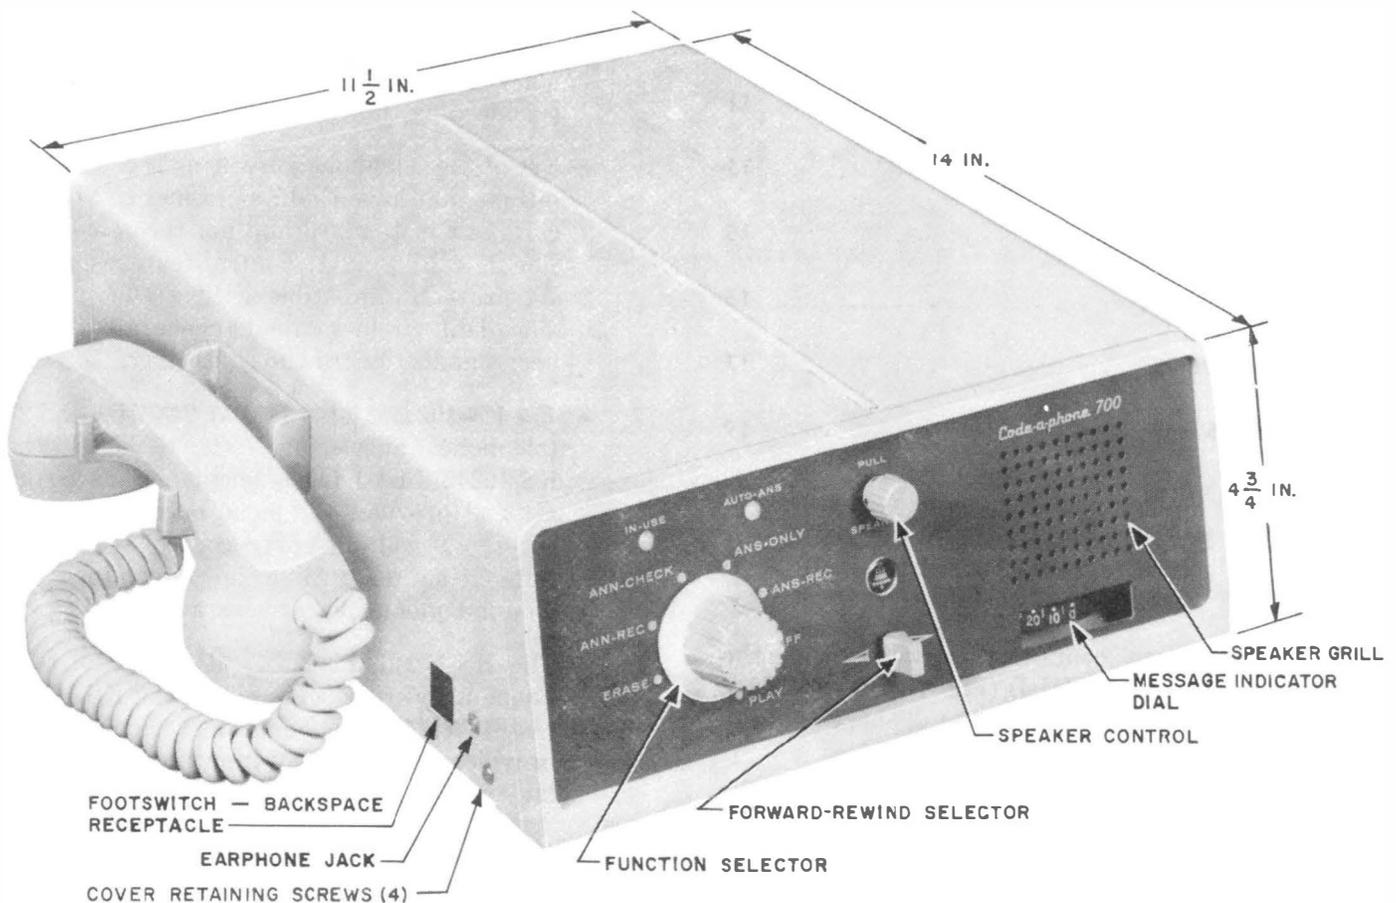
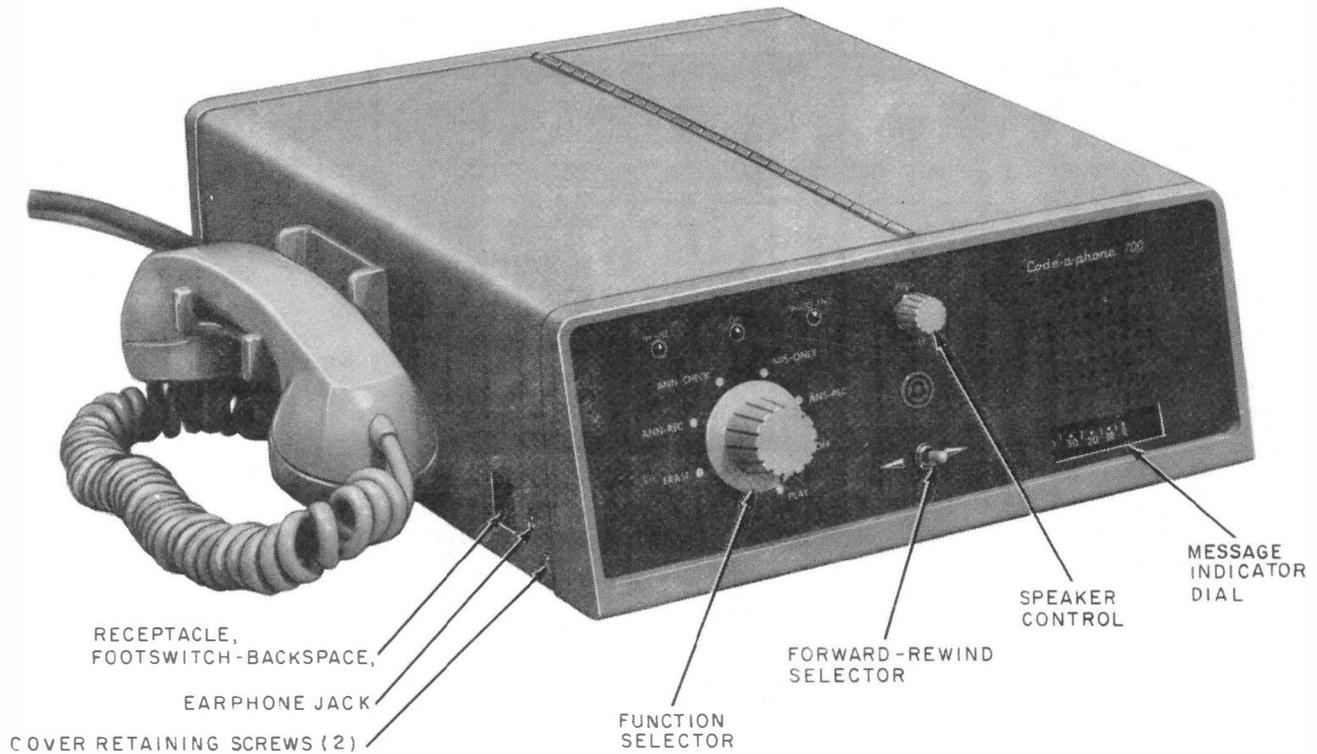
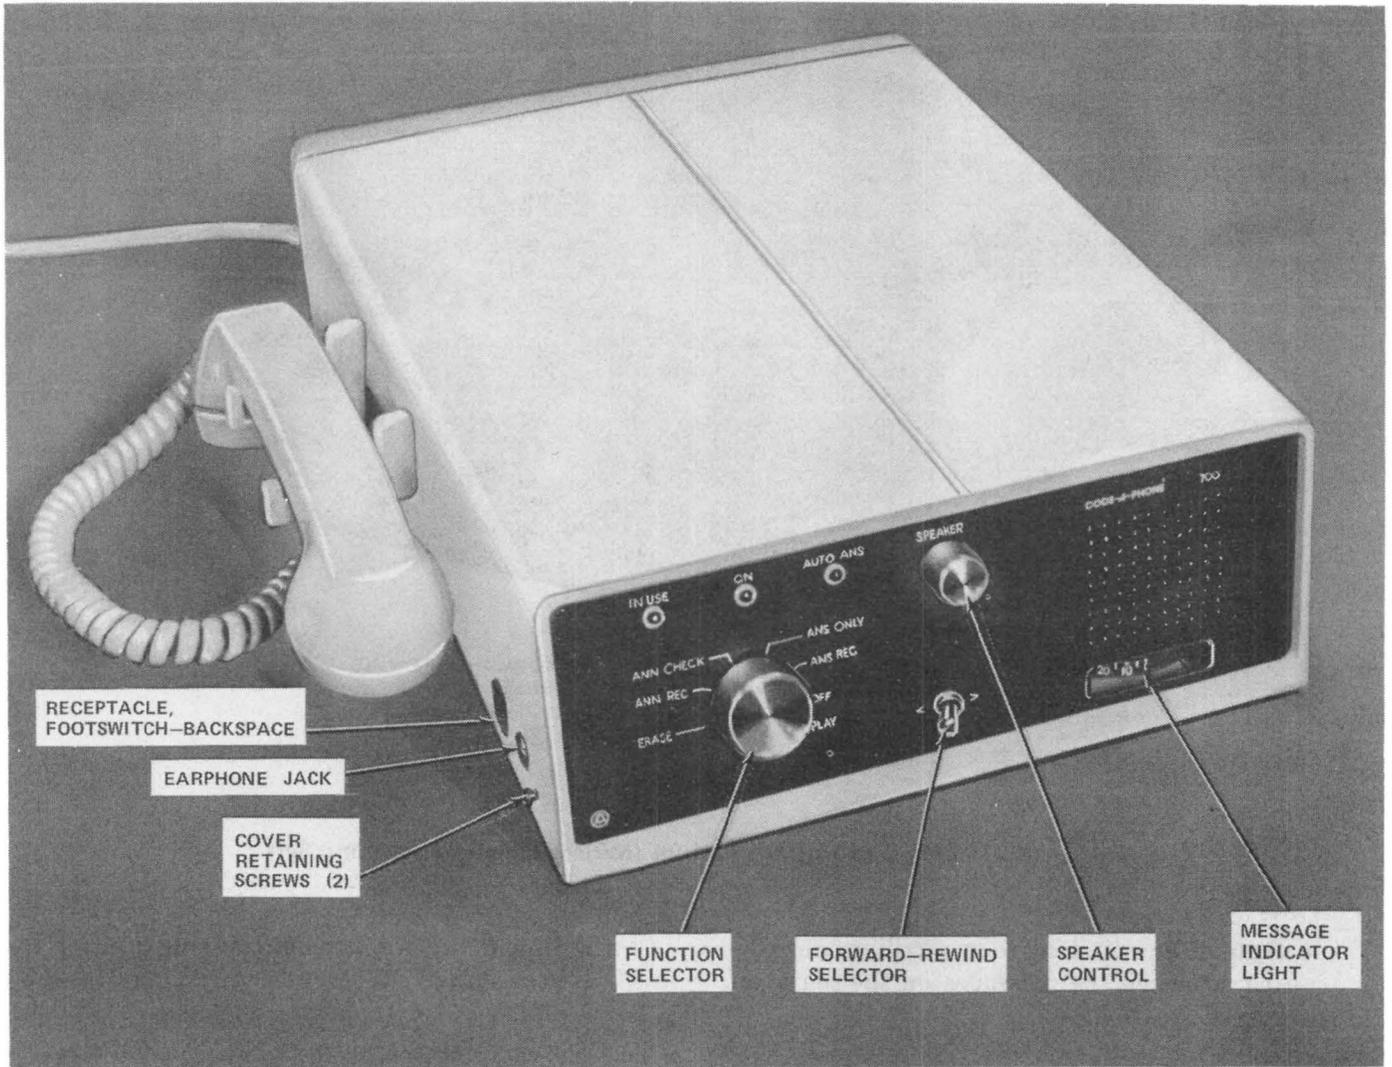

Fig. 1—KS-19245, List 1 (MD) Telephone Answering Set
Fig. 2—KS-19245, Lists 13 (MD) and 24 (MD) Telephone Answering Sets
Fig. 3—KS-19245, List 26 Telephone Answering Set
1.01 This section contains information on the KS-19245, List 1 (MD) (Fig. 1), List 13 (MD), List 24 (Fig. 2), and List 26 (Fig. 3) telephone answering sets.
2.01 The KS-19245, Lists 1 (MD), 13 (MD), and 24 (MD), and 26 telephone answering sets (Fig. 1, 2, and 3) are automatic answering sets for either answer and record, or answer only service.
- The use of the KS-19245, Lists 13 (MD), 24 (MD), and 26 behind a DIMENSION® PRX equipped with a 120B ring generator is not recommended. The ring detector circuitry is not compatible with the level of distortion produced by this generator.
- The KS-19245, Lists 13 (MD), 24 (MD), and 26 telephone answering set replaces the KS-19245, List 1 (MD) telephone answering set and provides the same operational features plus calling party control (CPC) options, ring delay, and an input jack for modular mounting cord installations.
- The KS-19245, Lists 24 (MD) and 26 telephone answering set replaces the KS-19245, List 13 (MD) telephone answering set and provides a six terminal input jack for modular mounting cord installation.
- Calling party control options provide selection of interrupt time from 0.5 to 450 milliseconds [Lists 13 (MD), 24 (MD), and 26 telephone answering sets only].
- Ring delay. Answer on first ring or after approximately 12 seconds of ringing [Lists 13 (MD), 24 (MD), and 26 telephone answering sets only].
- Modular connections [Lists 13 (MD), 24 (MD), and 26 telephone answering sets only].
- Housed in a metal case. The cover has a light olive gray textured finish and the front panel has a blue-gray enamel finish for the Lists 1 (MD), 13 (MD), and 24 (MD). The cover is ivory and the front panel is dark brown for the List 26 telephone answering set. Dimensions of the Lists 1 (MD), 13 (MD), 24 (MD), and 26 telephone answering sets are shown on Fig. 1. Weight of List 1 (MD) telephone set is 31 pounds and of Lists 13 (MD), 24 (MD), and 26 telephone answering sets is 24 pounds.